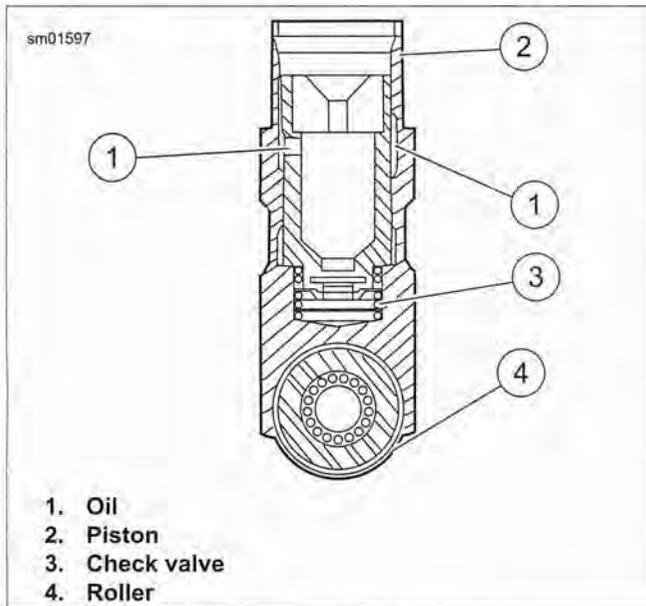

Figure 3-167. Tappet Assembly
See Figure 3-167. The tappet and roller (4), under compression force from valve spring, follow the surface of the revolving cam. The up-and-down motion is transmitted to the valve by the push rod and rocker arm. The tappet contains a piston (2) and cylinder. The check valve (3) allows the unit to fill with engine oil (1) reducing clearance in the valve train. The unit automatically compensates for heat expansion to maintain minimal clearances between the cam and the push rod.